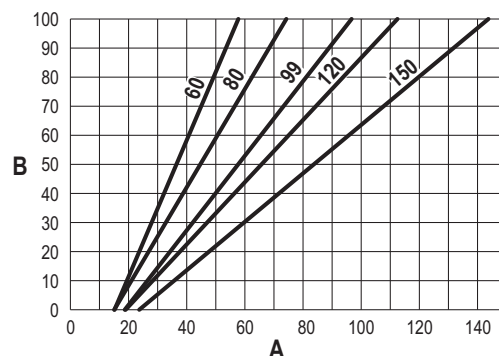

fig. 82
- Press the **contextual buttons 1 and 2** to increase or decrease the heating capacity (minimum = 00 - maximum = 100). See the diagram "Heating Capacity Adjustment" (fig. 82).